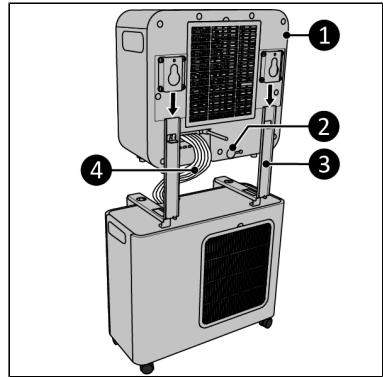

Figure 35.
4. Slide the indoor unit (Figure 35, pos. 1) over the brackets (Figure 35, pos. 3).
5. Guide the refrigerant hose (Figure 35, pos. 4) between the indoor and outdoor unit. Avoid bending the refrigerant hose in smaller bends than 30 mm.
6. Remove the water stop plug (Figure 35, pos. 2).